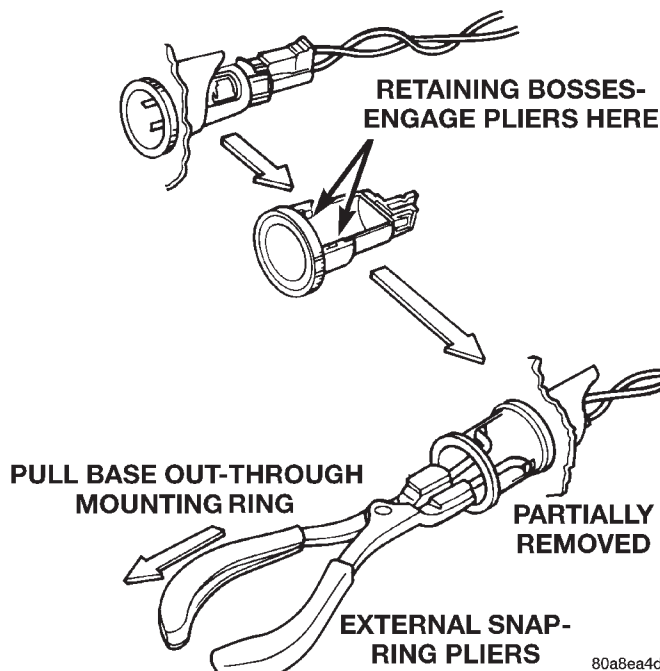

Fig. 9 Outlet Base Removal
(2) Look inside and note position of the retaining bosses (Fig. 9).